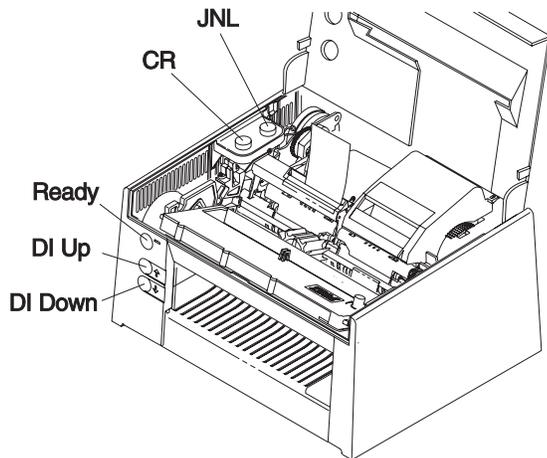

Figure 6-1. Printer Buttons
Note: When the printer access cover is open, the Ready button functions as a test button. The other four buttons, when pressed individually, function as paper advance buttons. See Figure 6-1 for the location of the printer buttons.
When the printer resets correctly, the printer indicator light next to Ready button comes on for a short time and the print head moves to the center position. See Figure 6-1 for the location of the buttons.
- Press JNL button to advance paper at the JNL station. See Figure 6-1 on page 6-4. (Step 018 continues)